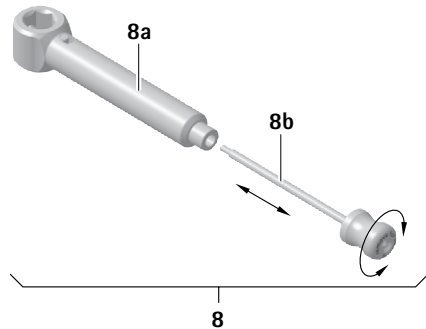

Fig. 2
- Screw the cleaning rod 8b into the counter torque 8a, see Fig. 2.